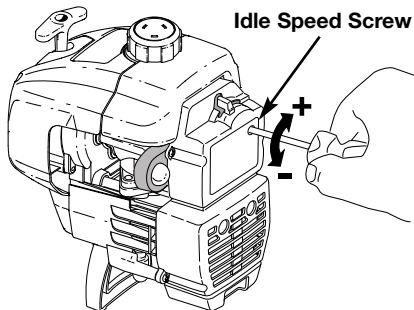

Fig. 35
2. Release the throttle trigger and let the engine idle. If the engine stops, insert a small phillips or flat blade screwdriver into the hole in the air filter/muffler cover (Fig. 35). Turn the idle speed screw in, clockwise, 1/8 of a turn at a time (as needed) until the engine idles smoothly.